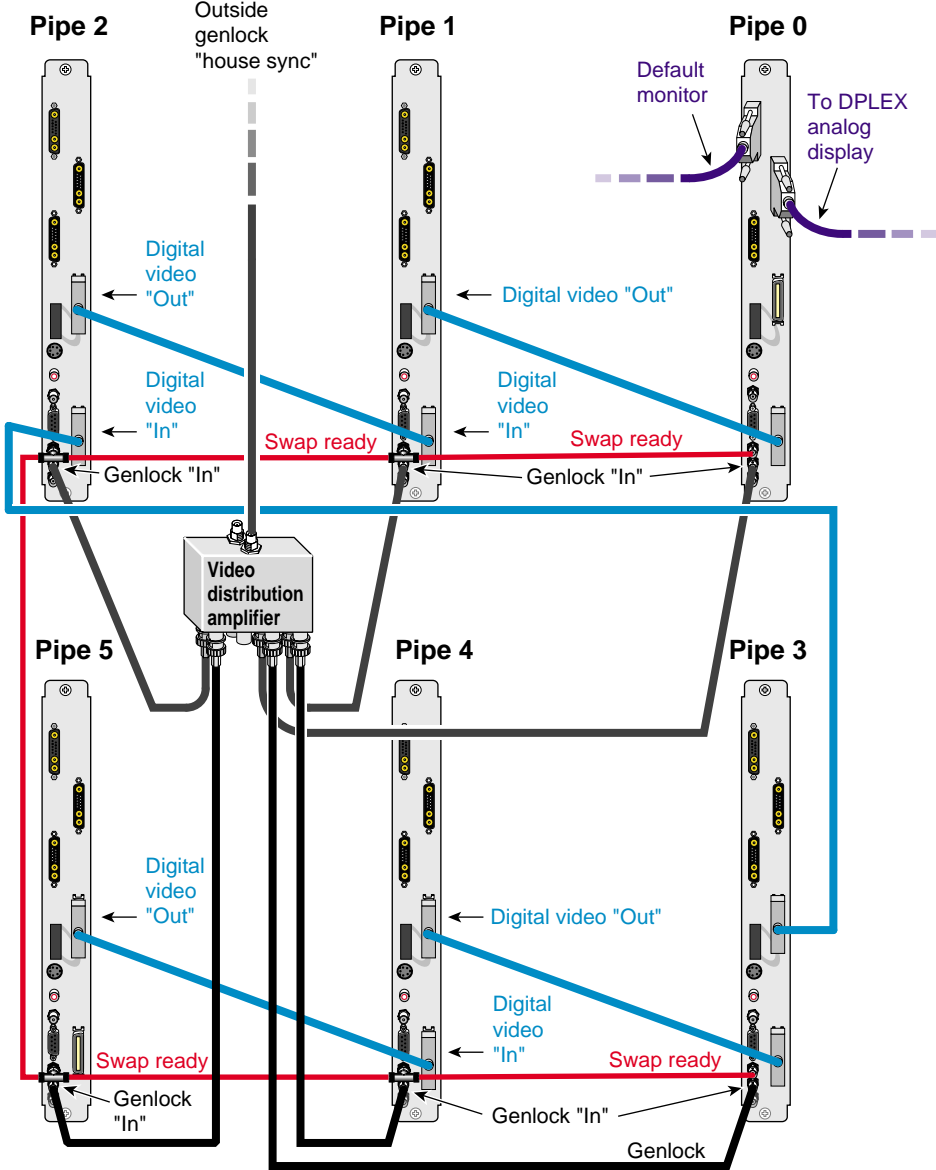

Figure 2-9 Six-Pipe DPLEX Cabling Example
2. Connect the six genlock cables from the video distribution amplifier to the genlock in connector on each DG5 DPLEX assembly (see Figure 2-9). Be sure the amplifier’s loop output internal termination jumper is set to terminate the genlock loop.
4. Connect swap ready cables to all the pipes using "T" connectors as applicable. No terminators are used with swap ready. See Figure 2-9 for an example.